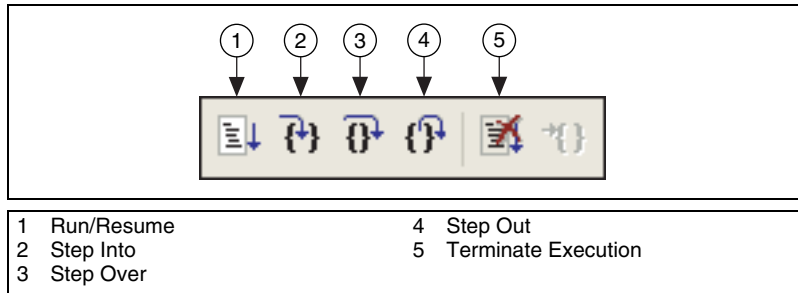

Figure 3-1. Debug Section of the Sequence Editor Toolbar
4. When the execution pauses, click **Step Into** on the Sequence Editor toolbar. Figure 3-1 illustrates the Debug section of the Sequence Editor toolbar.